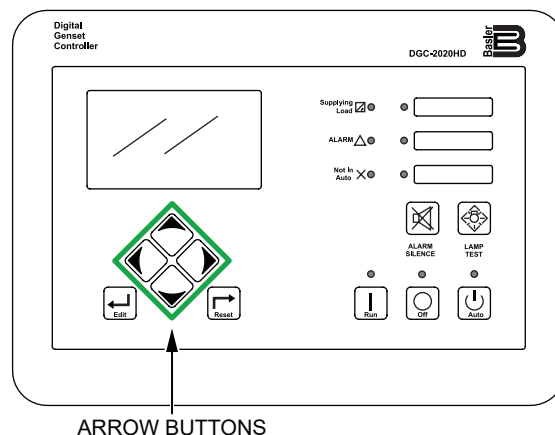

Figure 84. Digital Controller (Arrow Buttons)
2. Use the **Arrow buttons** (Figure 84) to navigate to the **J1939 ECU menu** (Metering->J1939 ECU). This will allow the operator to perform the following diagnostics: